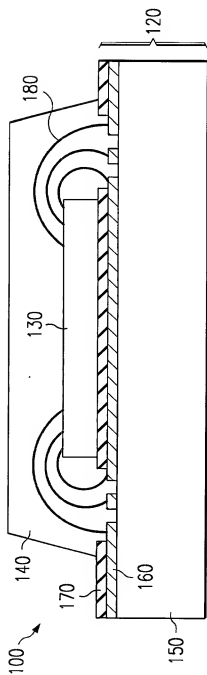

FIG. 1
FIG. 1 is a cross-sectional view of a substrate 120. The substrate 120 is a horizontal base. On top of the substrate 120, there are three protrusions: 310 on the left, 320 in the middle, and 330 on the right. Each protrusion has a top surface with a dotted pattern, representing a textured or porous layer.
Figure 1 is a plan view of a display device. It shows four subpixels labeled 600, 640, 650, and 660. Each subpixel contains a central region (130) and is surrounded by various components including electrodes (610, 615, 620, 625, 630, 635a, 635b), transistors (605, 606), and a common data line (607). The subpixels are arranged in a grid pattern, with the central region 130 being a common area shared by all four subpixels.